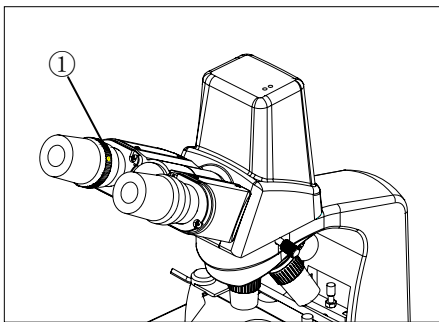

Fig.23
3.3.7 Adjusting the diopter (Fig.23)